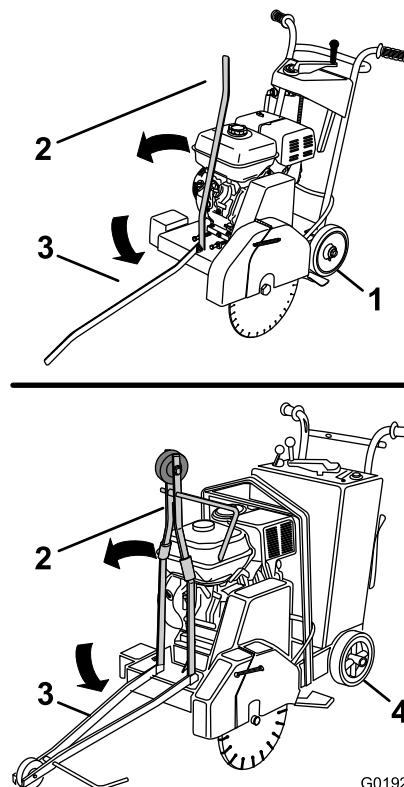

Figure 29
2. If the forward pointer is stowed in the up position, rotate the extended position (Figure 29).